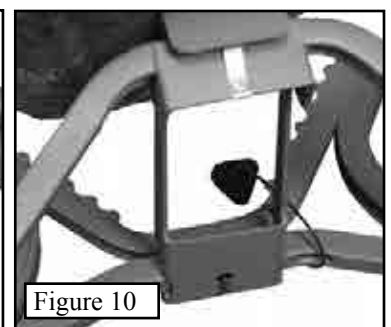

Figure 10
Step 1. The Copperhead is shipped to you in its folded position. To setup, rotate the pivoting brace up and place the C-Channel over the bolt stud as shown in **Figure 10**.